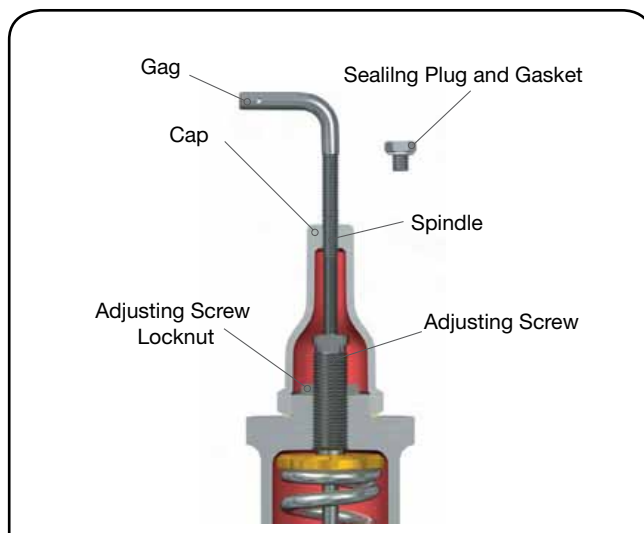

Figure 39: Hydrostatic Testing
When hydrostatic tests are required after installation of an SRV, remove the SRV and replace it with a blind flange. If the hydrostatic test pressure will not be greater than the operating pressure of the equipment, a test gag may be used. Very little force, i.e. hand-tight pressure, on the test gag is sufficient to hold hydrostatic pressures. Too much force applied to the gag may bend the spindle (15) and damage the seat. After a hydrostatic test, the gag must be removed and replaced by the sealing plug furnished for this purpose (see Figure 39). (Test gags for Consolidated® SRVs can be furnished for all types of caps and lifting gears.)